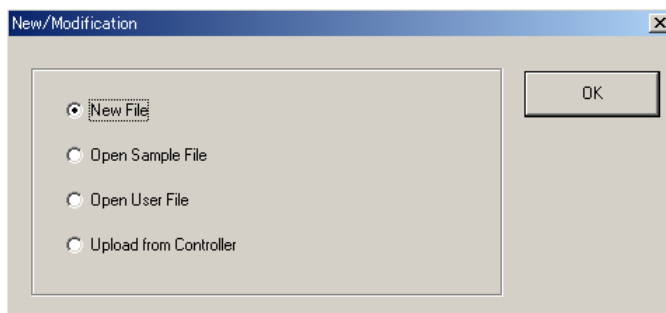
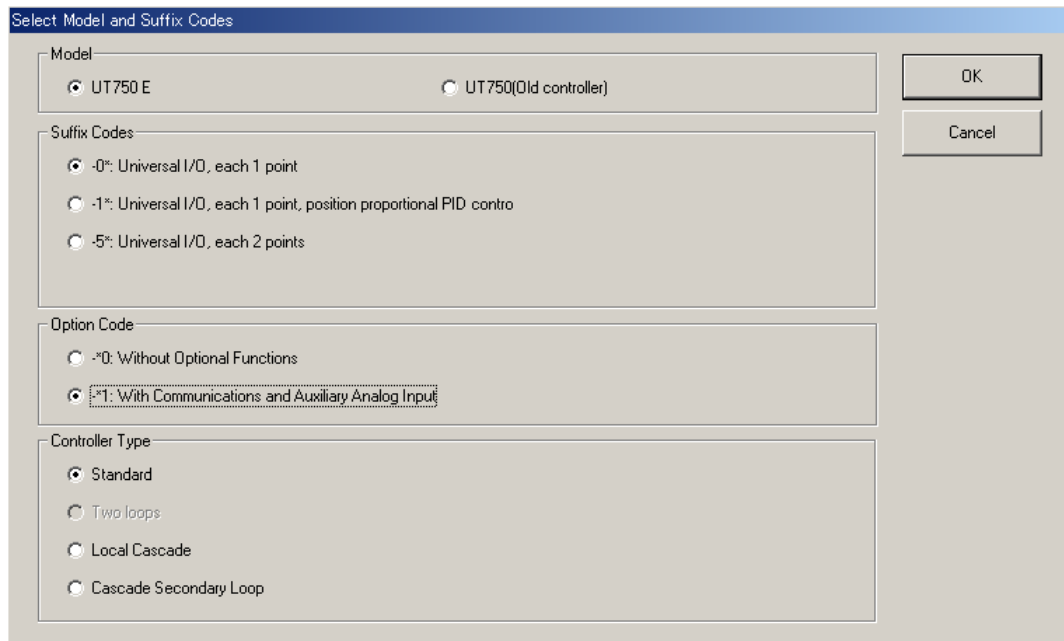

Figure 4.1.3 [New/Modification] Dialog Box
Figure 4.1.4 [Select Model and Suffix Codes] Dialog Box
The [New/Modification] dialog box (Figure 4.1.3) appears.
- (1) If you are configuring a custom computation from scratch, choose <New File>. Click the <New File> option button, then the <OK> button. The [Select Model and Suffix Codes] dialog box (Figure 4.1.4) appears.
If you choose <New File> in the [New/Modification] dialog box (Figure 4.1.3), the [Select Model and Suffix Codes] dialog box (Figure 4.1.4) appears. This dialog box also appears if you choose <Open Sample File>.
Click the <OK> button. The [Select Model and Suffix Codes] dialog box (Fig.4.1.4) appears.